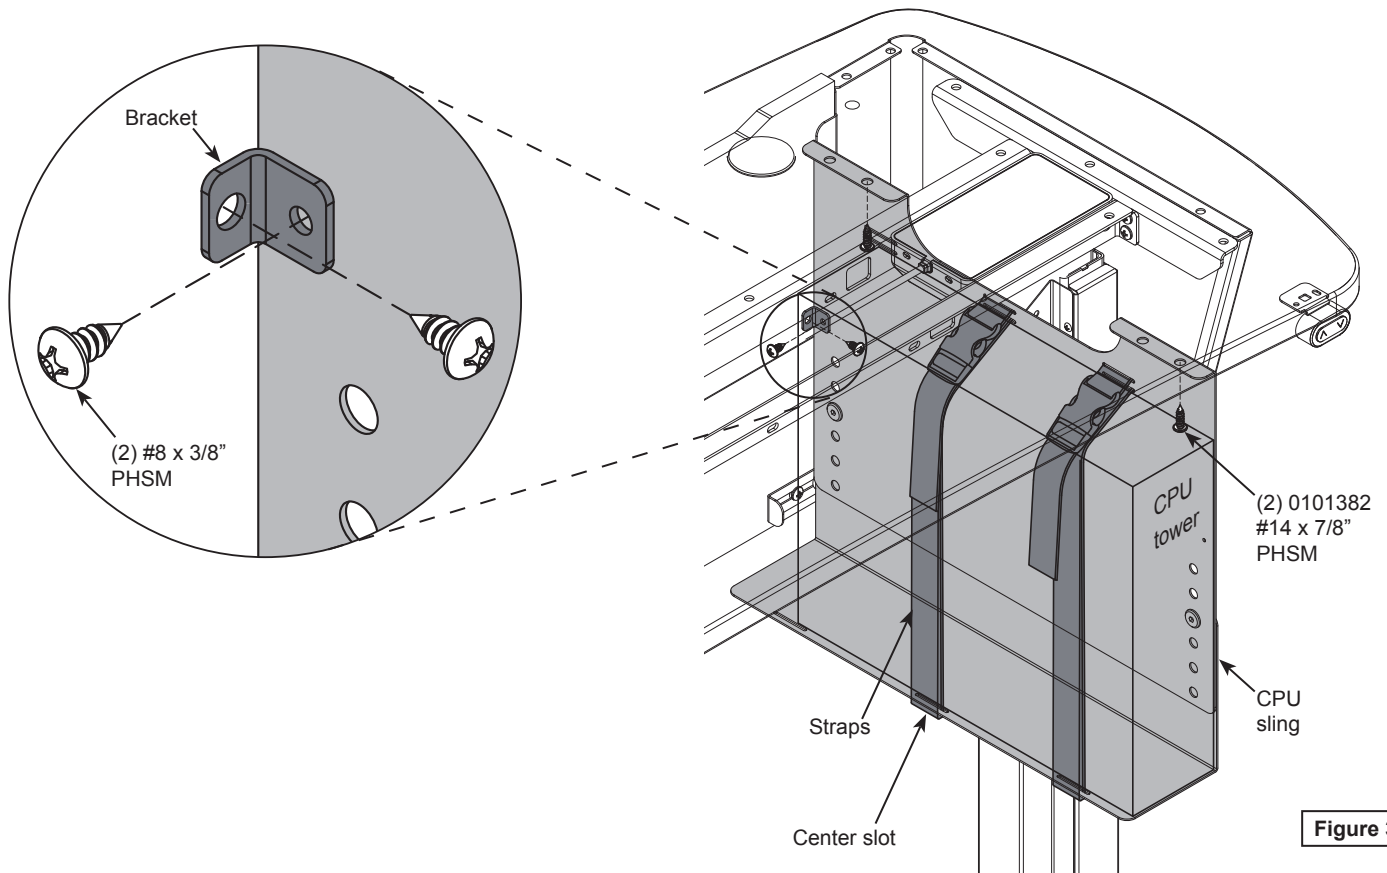

Figure 3
2. Determine which side of the lectern you prefer the CPU sling to be on. (Left or right). **Figure 3** shows a right-side installation.
3. Align the CPU sling with the pre-drilled worksurface mounting holes, and attach with (2) #14 x 7/8" PHSM screws.
4. Install the bracket with (2) #8 x 3/8" PHSM screws.